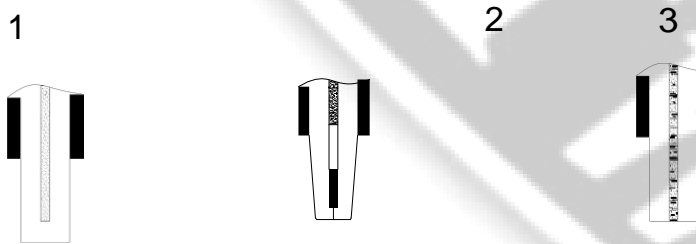

Fig.11 Electrode Configuration
Electrode is a service component of SMTMAX Spot Electric Welding Machine for stripping and welding. As Fig.11 shows, there are three models of electrodes: Tip Ohmic Contact Model (1), Model U (2) and Parallel Model (3). As per the welding requirement for various work pieces, the end face of the Electrodes are machined into Model Plane, Model Arc, Model Incline etc. There are various models of electrodes, which can be selected as per welding requirements.